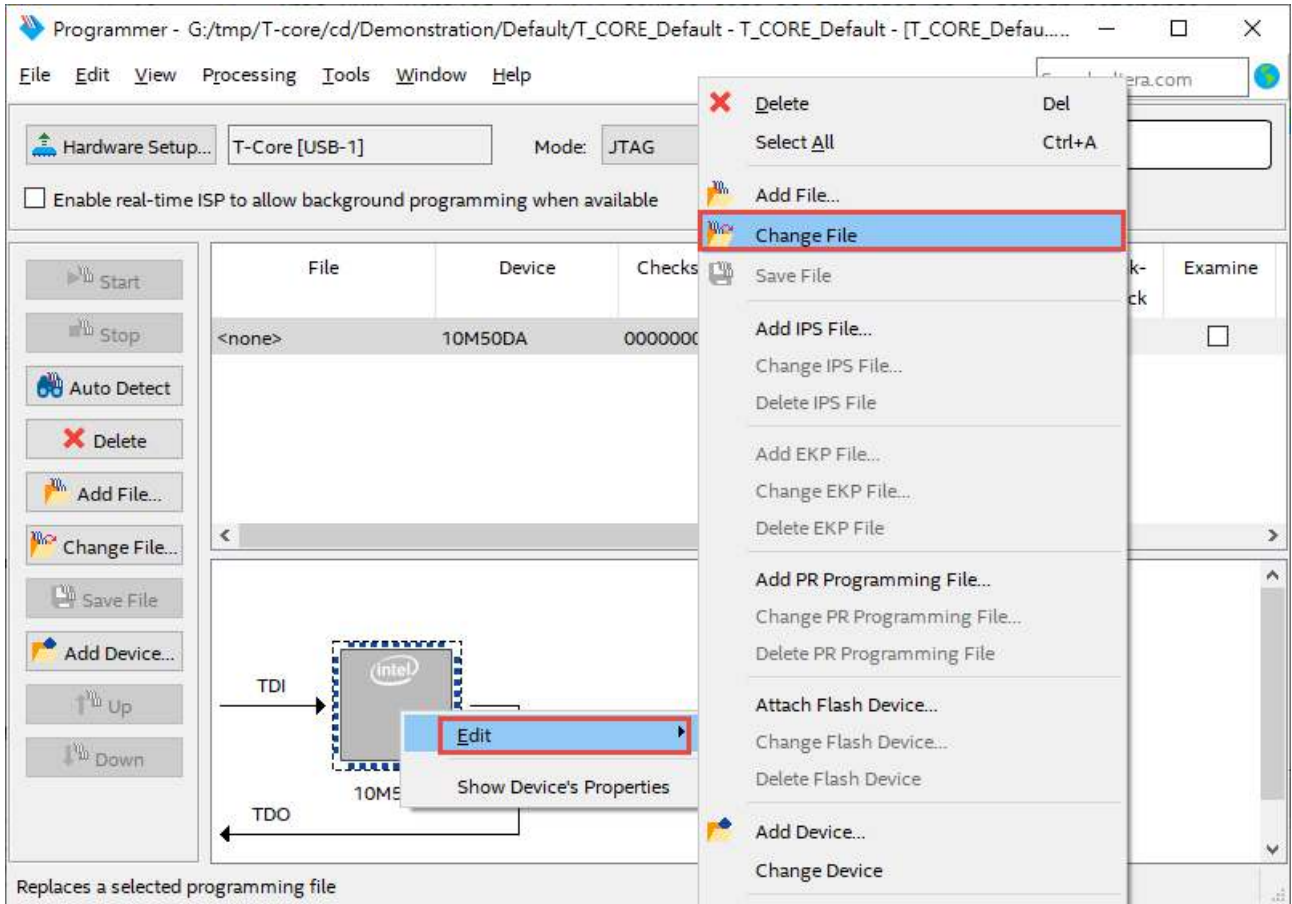

Figure 2-8 Open the .sof file to be programmed into the FPGA device
- Right click on the FPGA device and click “Change File” to open the .sof file to be programmed, as highlighted in **Figure 2-8**.